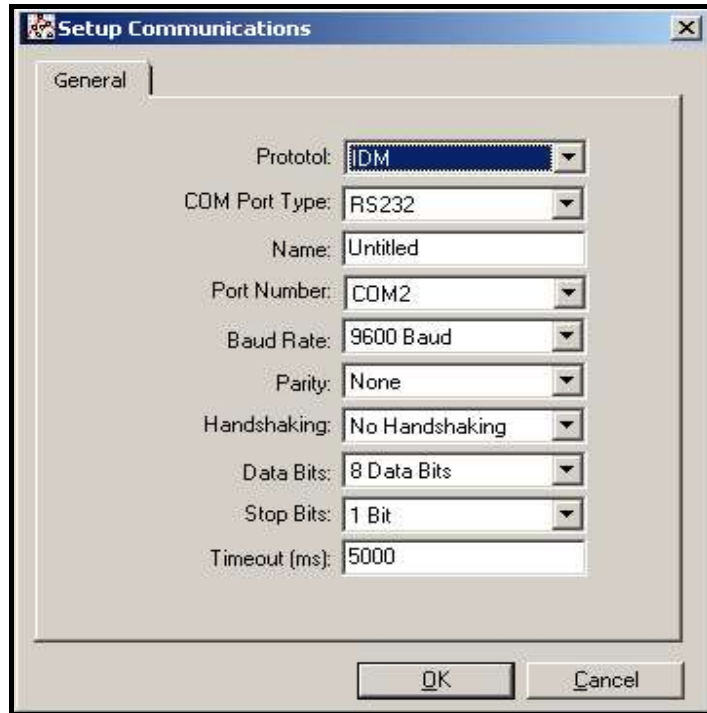

Figure C-2: Setup Communications Screen
4. Click on the "Communications Port" option to select it. The *Setup Communications* screen appears similar to Figure C-2 below.